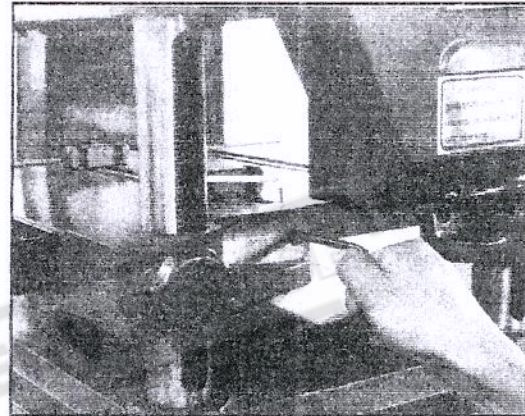

Fig. 28
2. Lay an adjusting gage(B) Fig.28 across table rolls and adjust height of table rolls by loosening set screws(D) and turn screws(E) to raise or lower table rolls.